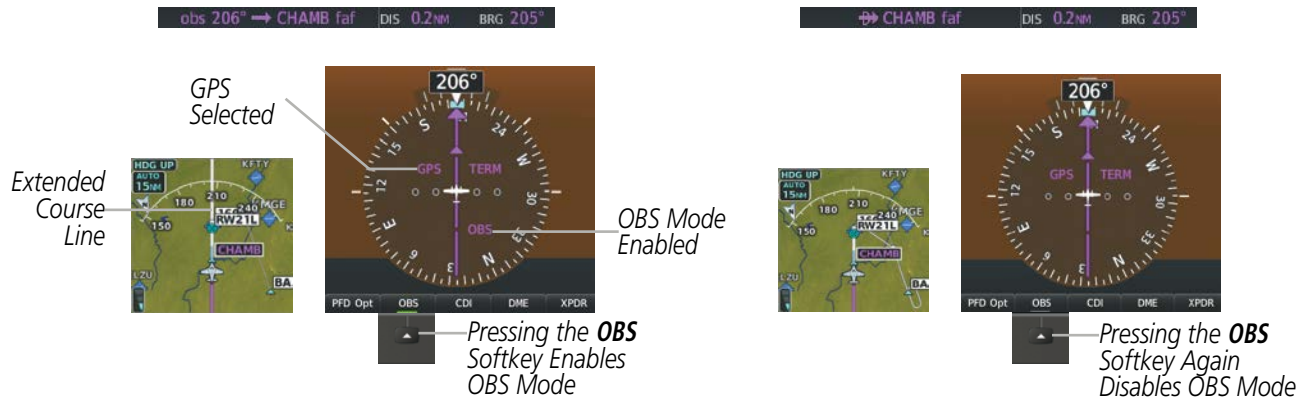

Figure 2-26 Omni-bearing Selector (OBS) Mode
- During **approach**, the CDI scale ramps down even further (Figures 2-26 and 2-27). This transition normally occurs within 2.0 nm of the final approach fix (FAF). The CDI switches to approach scaling automatically once the approach procedure is activated or if Vectors-To-Final (VTF) are selected.